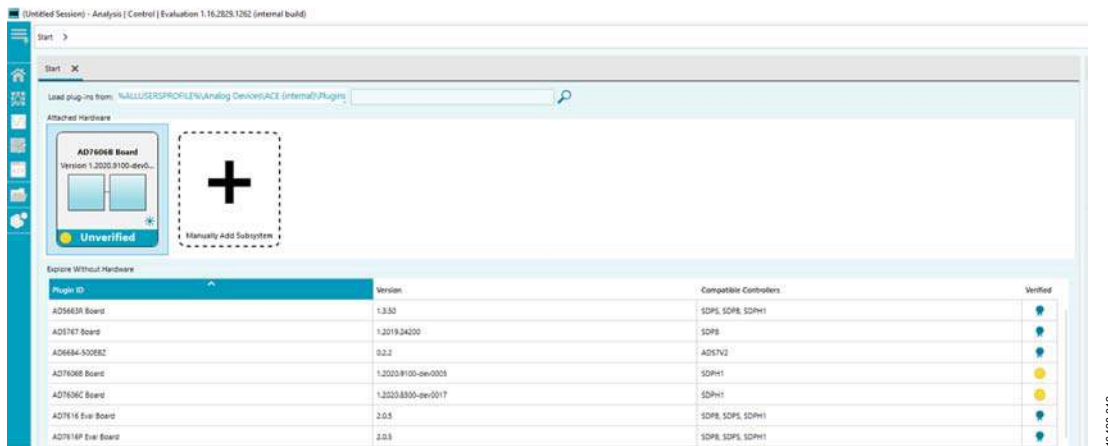

Figure 10. ACE Software Main Window
1. From the **Start** menu, select **All Programs > Analog Devices > ACE> ACE.exe**, which brings up the window shown in Figure 10.
3. Double-click the **AD7606B Eval Board** icon to view the window shown in Figure 10.